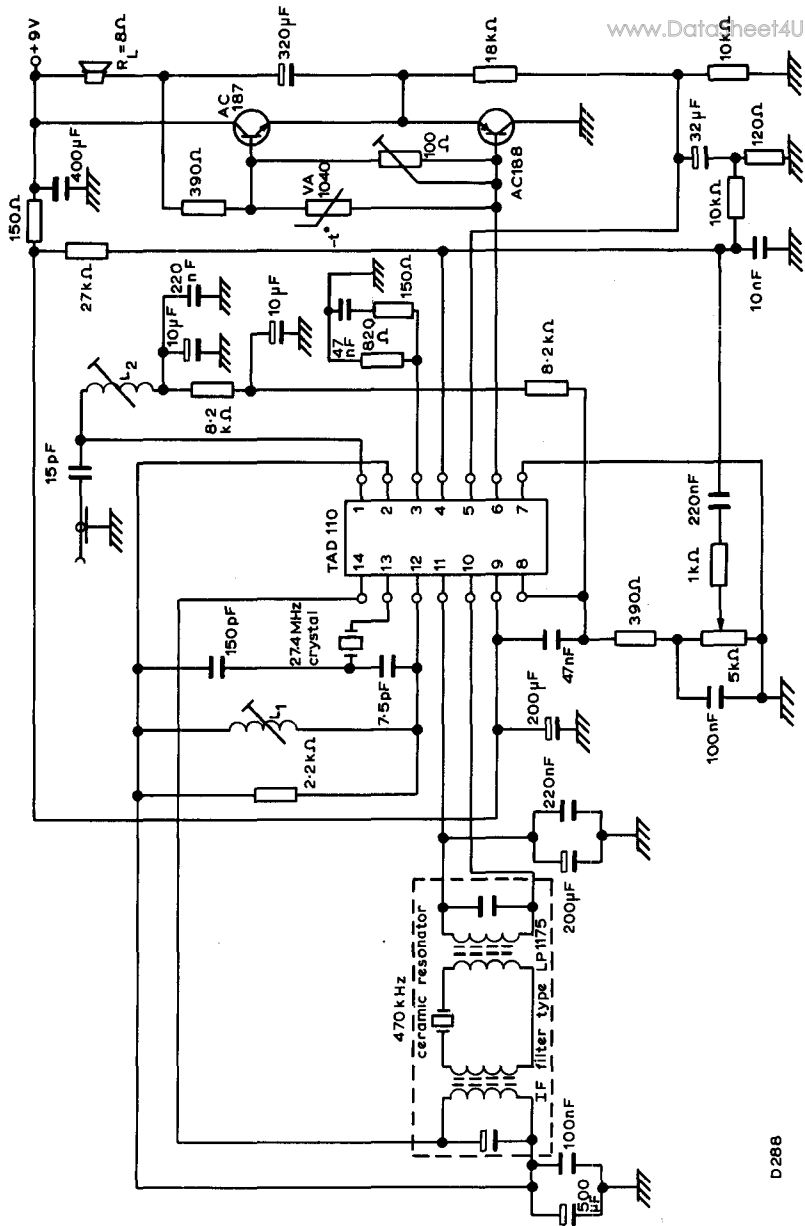

Fig. 3
Typical performance in a. m. circuit (see Fig. 3)
A.M. Circuit ($V_{supply} = 9.0V$, see Fig. 3)